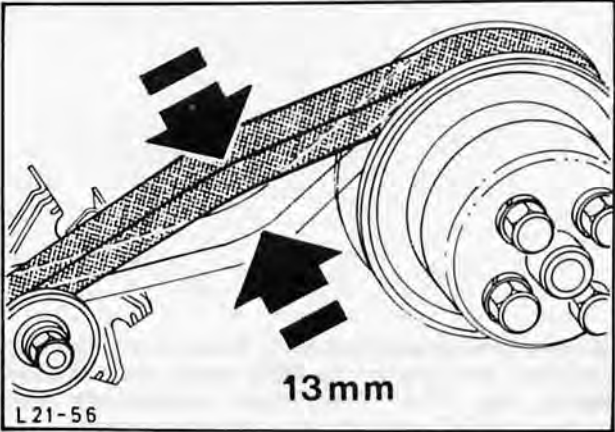

Fig. 117. Tighten fan belt
59. Fit fan belt and adjust belt tension to achieve 13 mm (0,5 in) free movement midway between alternator and fan pulleys, Fig. 117.